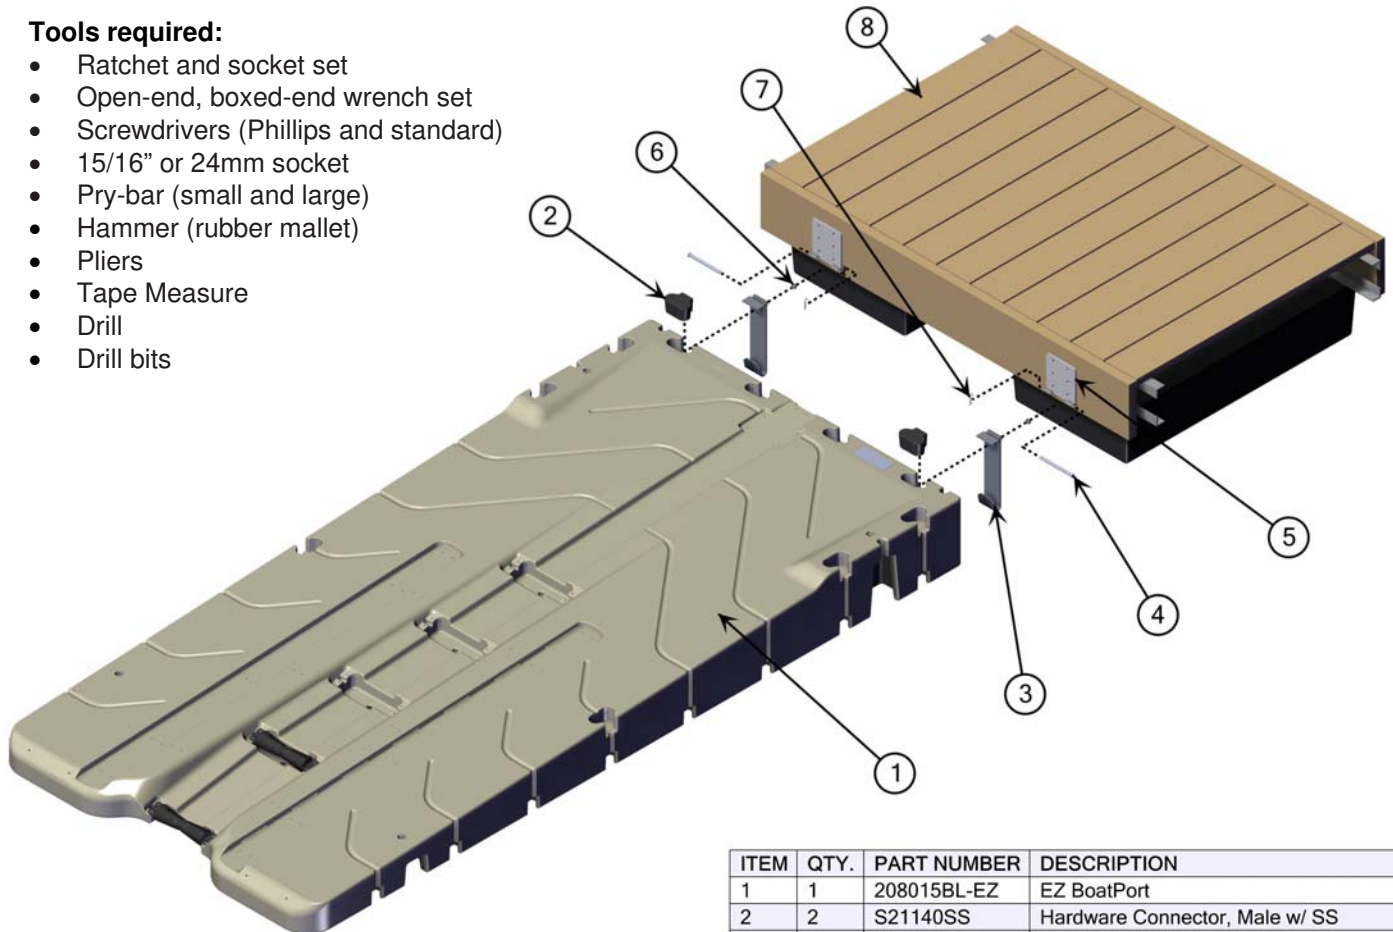

Figure 8.
The 100750 or 100750SS hinge kit is required when anchoring an EZ BoatPort (208015BL-**) at an existing floating dock. This kit can be used either on the front of the EZ BoatPort (Figure 8) or on either set of coupler pockets located on the side of the EZ BoatPort.
2. Determine the best position for the hinge adapter plate (Item 5). The plate can be above (Figure 8), perpendicular, or directly in front of the hinge adapter bracket.
5. Place two (2) hardware connectors (Item 2) in the two outside top pockets on the EZ BoatPort (Item 1). Place J-hook (Item 3) of floating dock adapters (Item 6) in lower EZ BoatPort pockets and rotate toward the hardware connector, allowing the bolt to go through the slotted hole and secure with nut (Item 6).